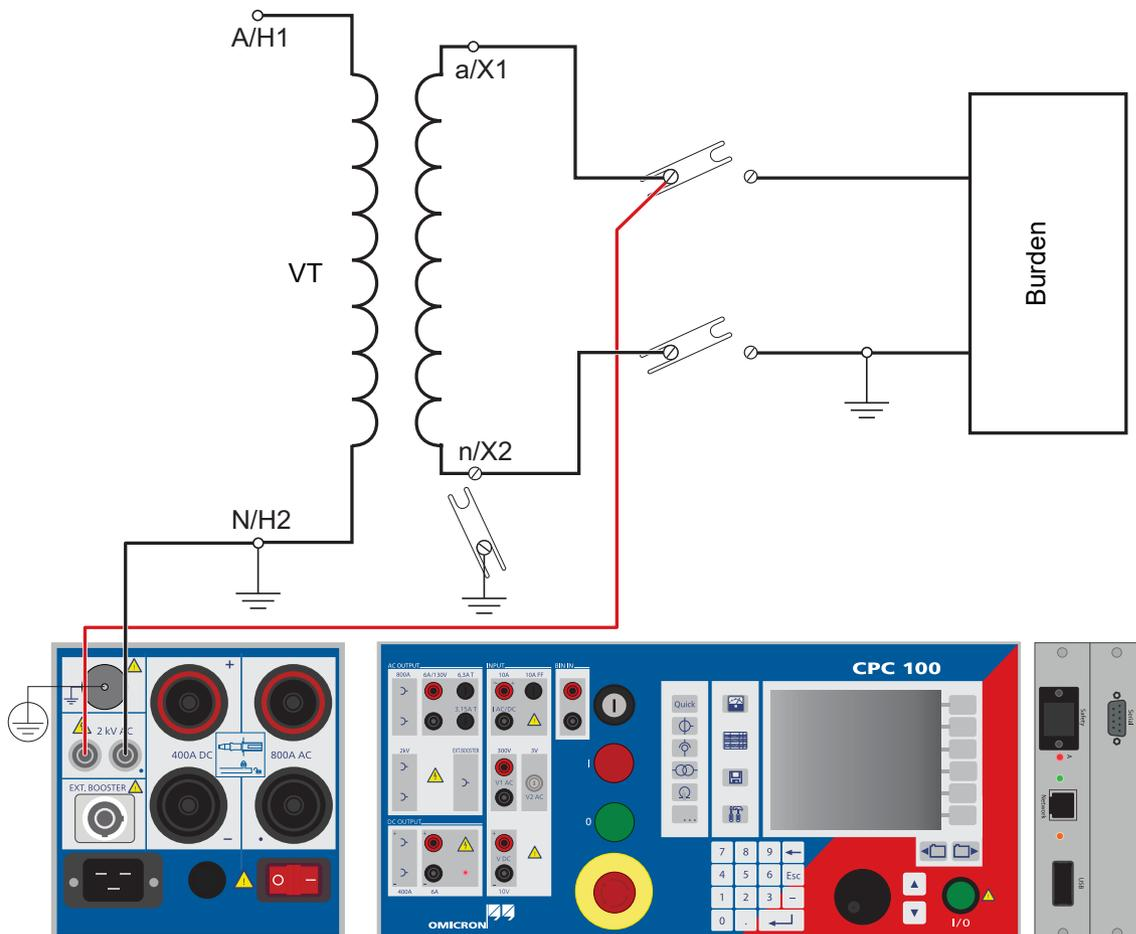

Figure 6-6: Setup for a voltage withstand test
To do so, disconnect the burden. As shown in Figure 6-6, connect the 2kV output socket without point to the transformer's secondary (a) winding connection, and the output socket marked with a point to earth and the transformer's primary connection (N).